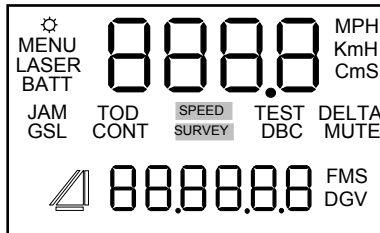

Figure 9. LCD Display Segments
1. Press the **TRIGGER**. Briefly, the screen display should look like Figure 9 below, and then the display will change to the Speed Measurement Screen. See Figure 15 on page 23.
3. Refer to Figure 9 (above) to ensure that all of the display segments are showing on your UltraLyte LR B.
Table 2 lists the display indicators and the function of each. These are presented in order of location on the display, from left to right starting in the upper left corner. See Figure 9 on page 14.